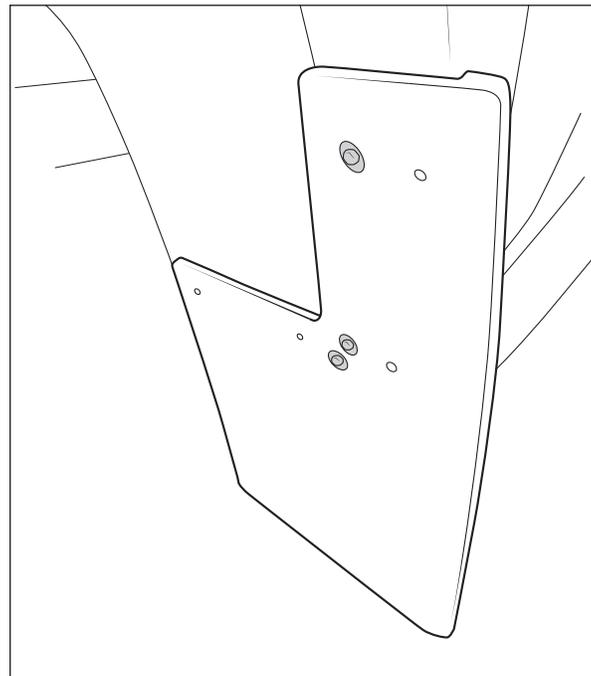

Figure 4
5. Use the three factory bolts removed in step 3 to loosely install the Splash Guard onto the vehicle along the inner holes using factory bolt locations (fig. 4).